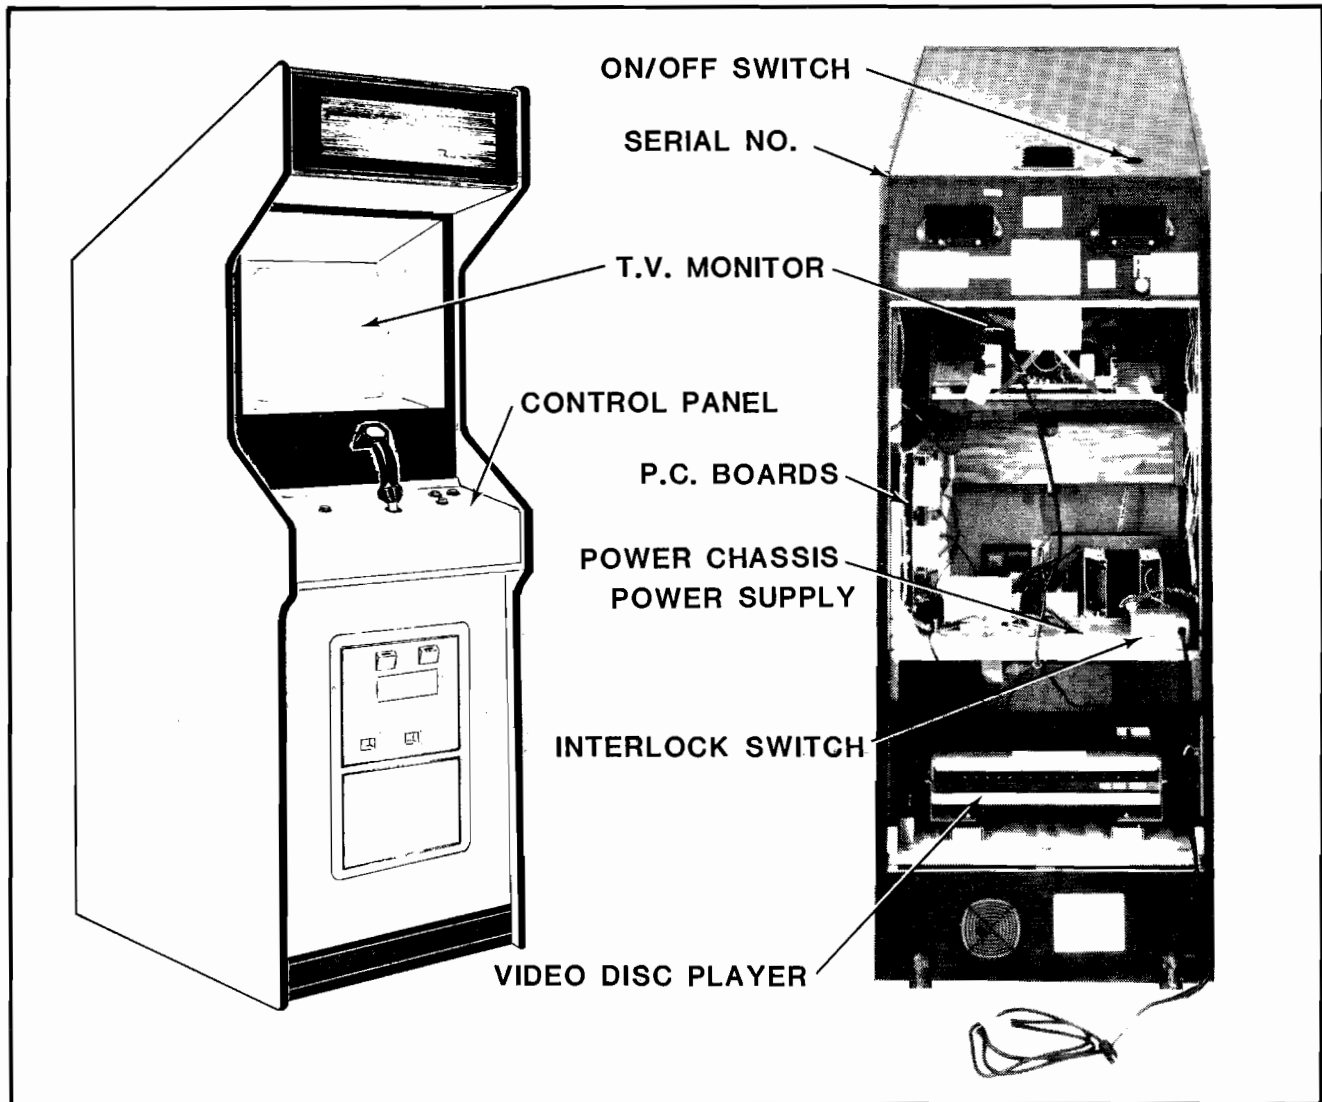

Figure 1-2 Location of Serial No., Interlock Switch, & Major Sub-Assemblies
5. Open the cabinet and inspect the inside of the game for any signs of damage. See Figure 1-2.
- Make sure all printed circuit boards (P.C.B.'s) are firmly seated in their connectors. See Figure 1-2. These connectors are also keyed. The P.C.B.'s will only go in to them one way
- Note the location of the games serial number. See Figure 1-2.
- Check all major subassemblies to be sure they are mounted securely. These are called out in Figure 1-2.
### 3. Interlock and power ON/OFF switches. See Figure 1-2.
The game ON/OFF switch is located as shown in Figure 1-2. Turn the game on and allow it to warm up a few minutes.